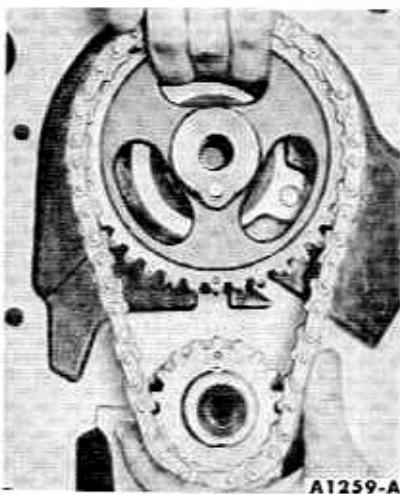

FIG. 21—Timing Chain Removal or Installation
3. Slide both sprockets and the timing chain forward, and remove the sprockets and timing chain as an assembly (Fig. 21).